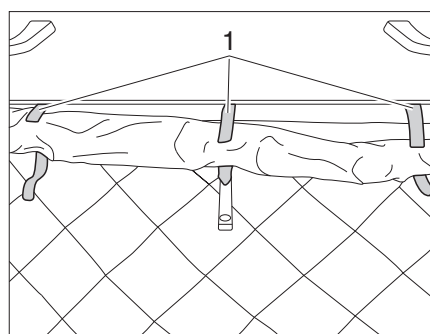

Fig. 42 Opening the Velcro
- Open the three Velcros (Fig. 42,1) of the cloth bellows.
- Roll up the cloth bellows in area of the locking mechanism with care and fasten with the three Velcros (Fig. 42,1).